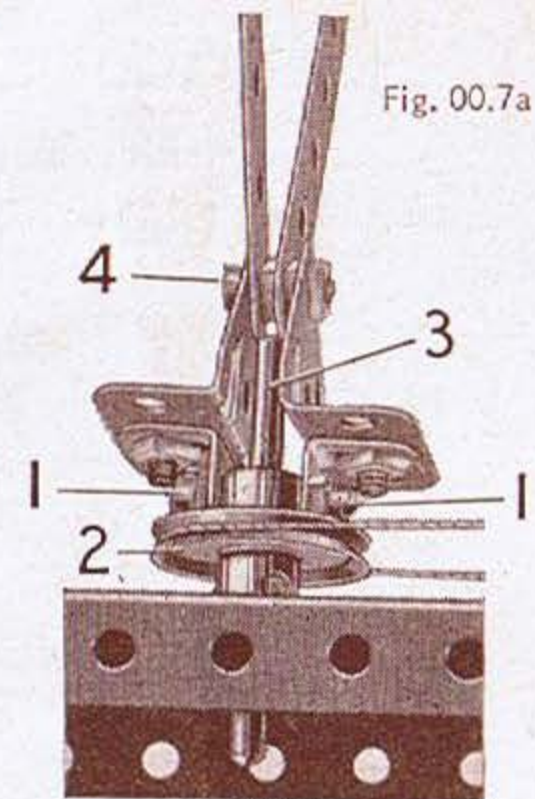

Fig. 00.7a
The bolts (1), each fitted with a nut, are passed through Angle Brackets and are screwed into the threaded holes in the boss of a 1" Pulley (2) until they grip a 2" Rod (3). This Rod is passed through a second 1" Pulley and the Flanged Plate and is held in position by a Spring Clip. The 5½" Strips are fixed by nuts on a ⅜" Bolt (4), Fig. 00.7a. A piece of cord is wrapped two or three times round the Crank Handle, then passed round the 1" Pulley, and its ends are tied together to make an endless belt.